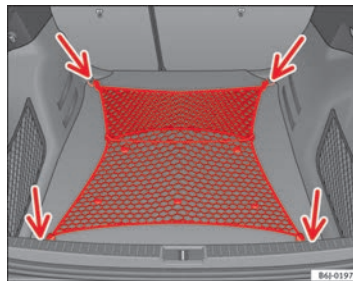

Fig. 95 Stretched luggage net
- Secure the luggage net to the four fastening rings -arrows- ⇒ Fig. 95.